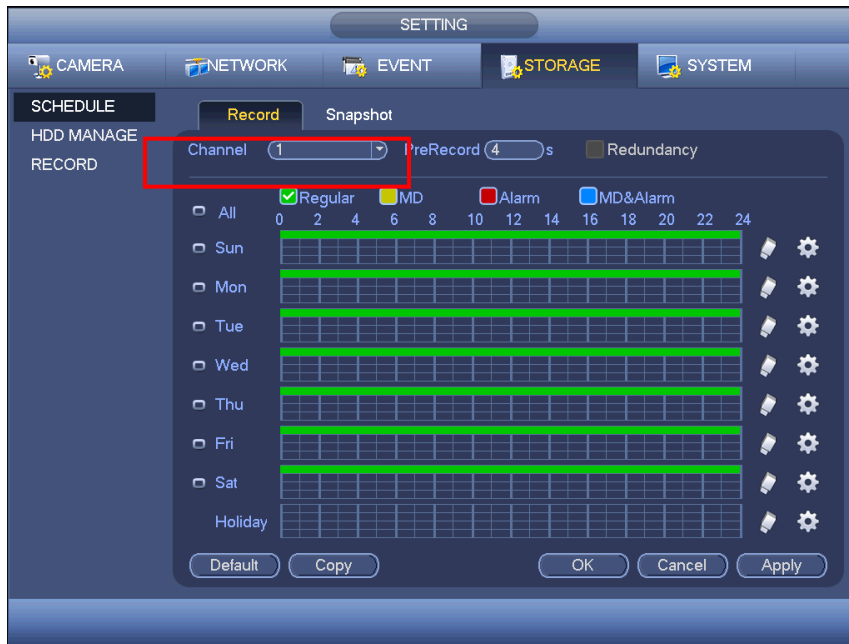

Figure 4-107
- In main menu, from Setting->Camera->Encode->Schedule interface, please enable snapshot function. See Figure 4-107.